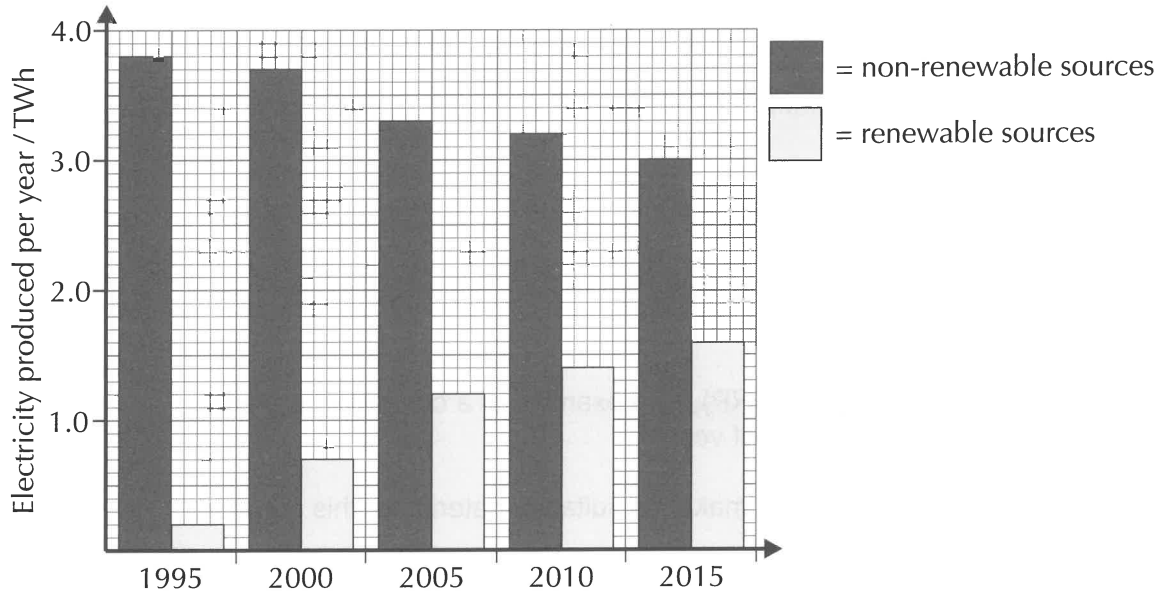

Figure 4
14 The bar chart in **Figure 4** shows the electricity generated from renewable and non-renewable energy sources in a small country over 20 years.
14.1 State the trend in the amount of electricity generated from renewable sources in **Figure 4**.